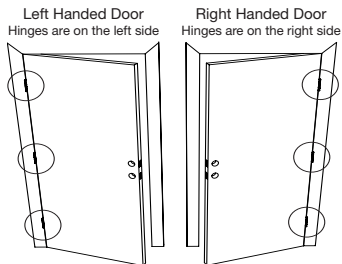

Figure 2a
- If the hinges are on the left your door is Left Handed (Figure 2a).
- From the side marked "This side against door", route the Control Wire through the rectangular slot in the Mounting Plate (Figure 2a).